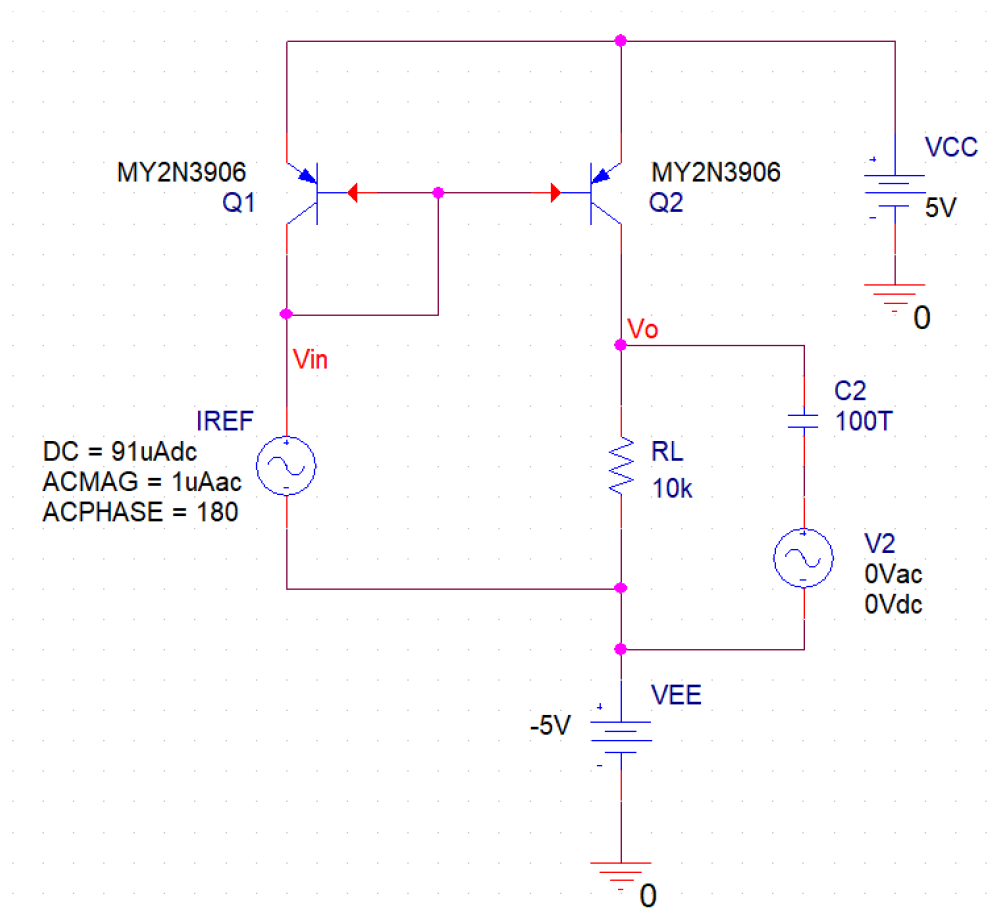

Fig. 3 Schematic diagram of the current mirror for the AC analysis
- 2.4 As shown in Fig. 3, construct the circuit using PSpice. Here, C_2 is a dummy bypass capacitor with 100 TF, and V_2 is a dummy AC voltage source as the port 2 stimulus used in the AC analysis.